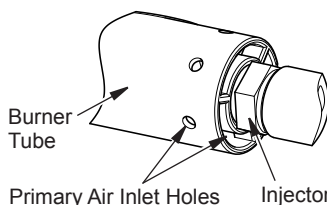

Figure 27 - Burner and Injector Holder
2. Inspect burner, pilot and primary air inlet holes on injector for dust and dirt (see Figure 27).